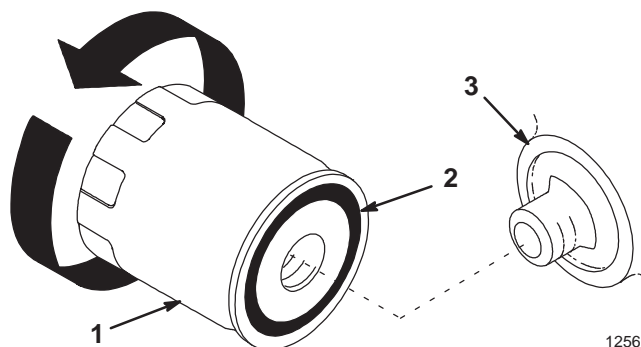

Figure 20
12. Change the oil filter if necessary (Fig. 20).
2. Remove the old oil filter and wipe off the adapter gasket surface (Fig. 20).
3. Apply a thin coat of new oil to the rubber gasket on the new oil filter (Fig. 20).
5. Tighten the oil filter an additional 1/2 to 3/4 turn (Fig. 20).